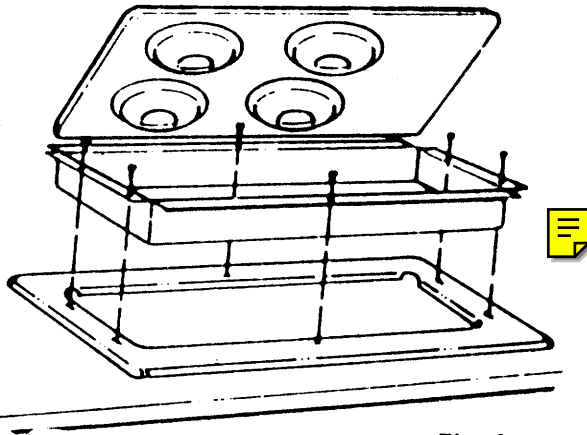

Fig. 4
- (b). Attach both the counter unit and trim ring to the counter top with wood screws (See fig. 4).